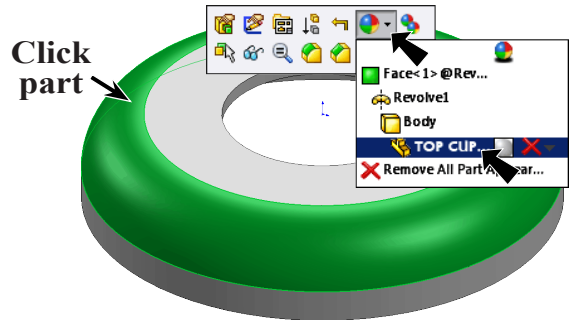

Fig. 15
Step 1. Click the part and click **Appearance Callout**  on the Context toolbar, then click **TOP CUP...** , Fig. 15.